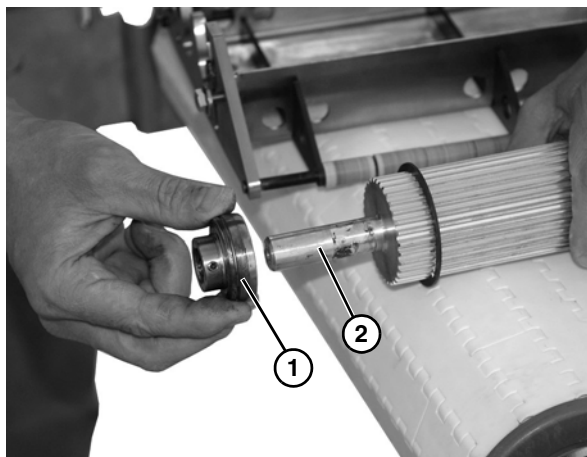

Figure 40
7. Remove bearing (Figure 40, item 1) from shaft (Figure 40, item 2).